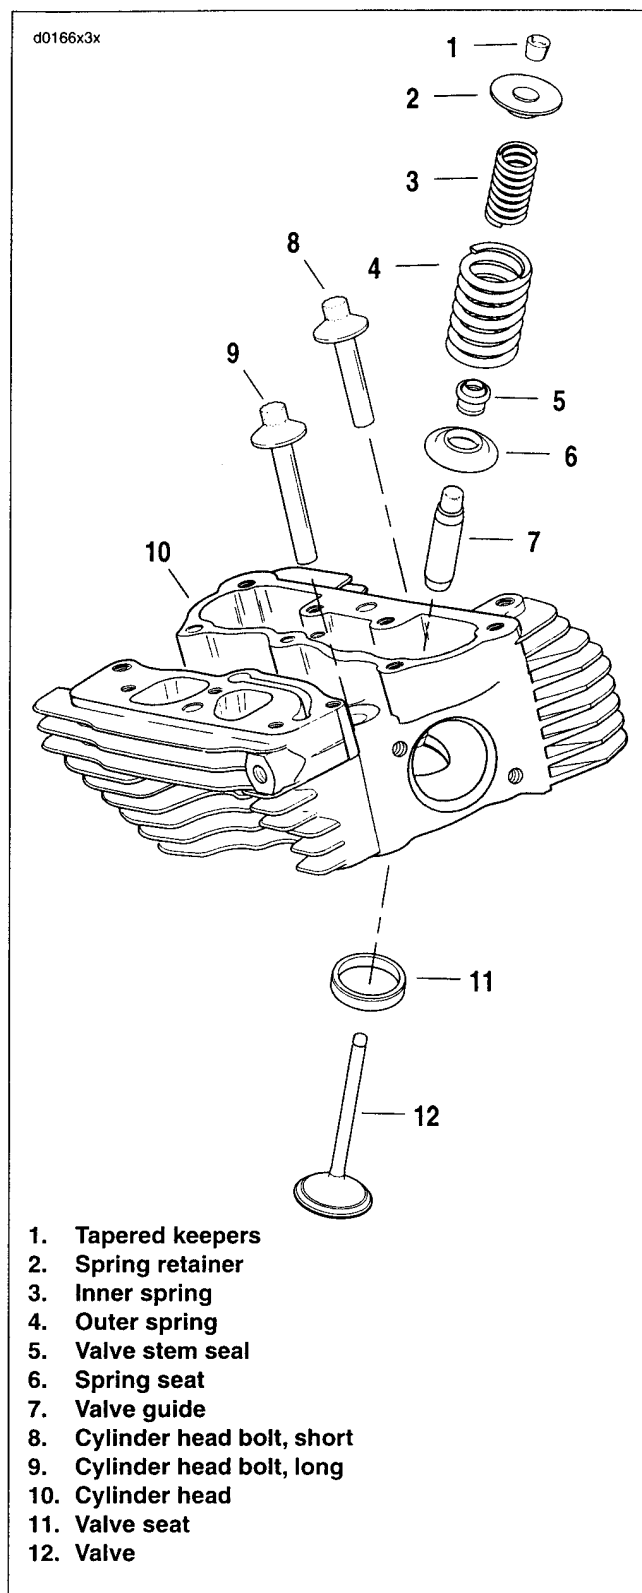

Figure 3-92. Cylinder Head Assembly
1. See Figure 3-92. Remove old gasket material from cylinder head (10). Gasket material left on sealing surfaces will cause leaks.